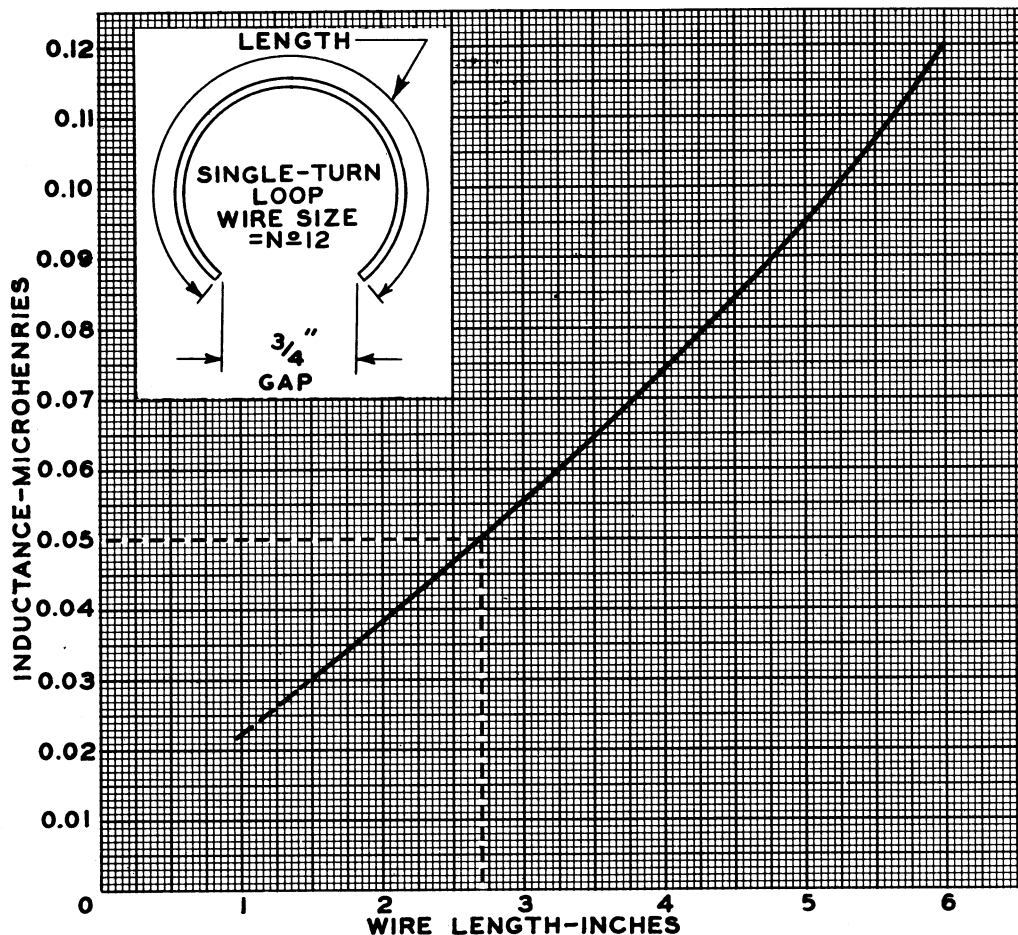
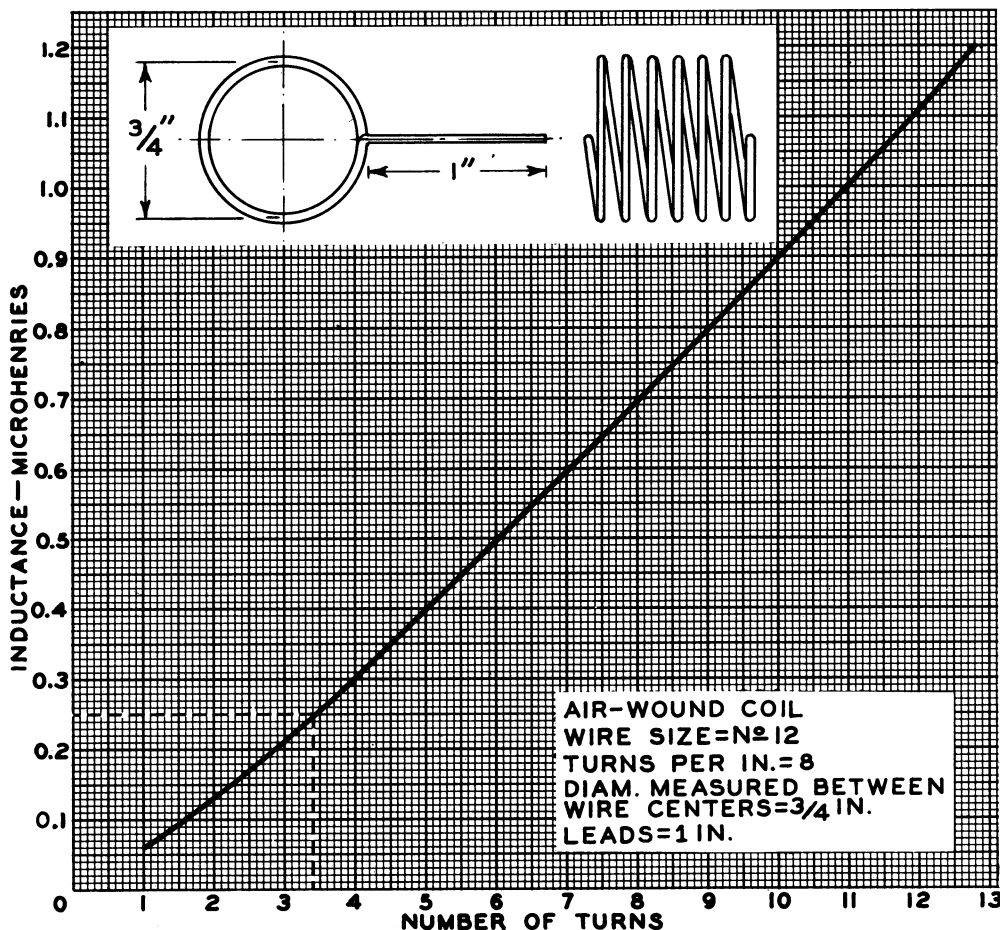

Fig. 1. Curve for determining the dimensions of a single-turn, flat loop (for inductance values of 0.03 to 0.1  $\mu$ h).
Fig. 2. Curve for determining the number of turns for inductance values greater than 0.1  $\mu$ h.
A single-turn flat loop as shown in Fig. 1 is satisfactory for an inductance of 0.03 to 0.1  $\mu$ h. For inductances greater than 0.1  $\mu$ h, the inductor may be wound as a conventional coil having several turns, as shown in Fig. 2, in order to conserve space and to maintain a reasonable  $Q$ .
**Example 1.** The dimensions of a 0.05- $\mu$ h inductor can be found from Fig. 1. The dashed lines indicate how the wire length (2.7 inches) can be read from the curve opposite the inductance of 0.05  $\mu$ h. This length of No. 12 wire, when formed into a single-turn flat loop having a ¾-inch gap between the ends of the
wire as shown in Fig. 1, will have an inductance of 0.05  $\mu$ h.
**Example 2.** If a 0.25- $\mu$ h inductor is required, the number of turns can be determined from Fig. 2 as shown by the dashed lines. If 3.4 turns of No. 12 wire are wound with a pitch of eight turns per inch and the diameter of
the coil is  $\frac{3}{4}$  inch (measured from the center of the wire as shown in *Fig. 2*), the coil will have an inductance of approximately  $0.25 \mu\text{h}$  (including the inductance of the one-inch leads).
Coils wound in accordance with *Figures 1* and *2* are sufficiently accurate for most TVI applications; they may be soldered into a low-pass filter without further adjustment.
Fig. 2. Inside view of the transmitter. Note the area where the paint is removed from the panel for contact with the chassis. Also note the meter shield, the meter by-pass capacitors, and the shielded power leads—all essential TVI precautions.